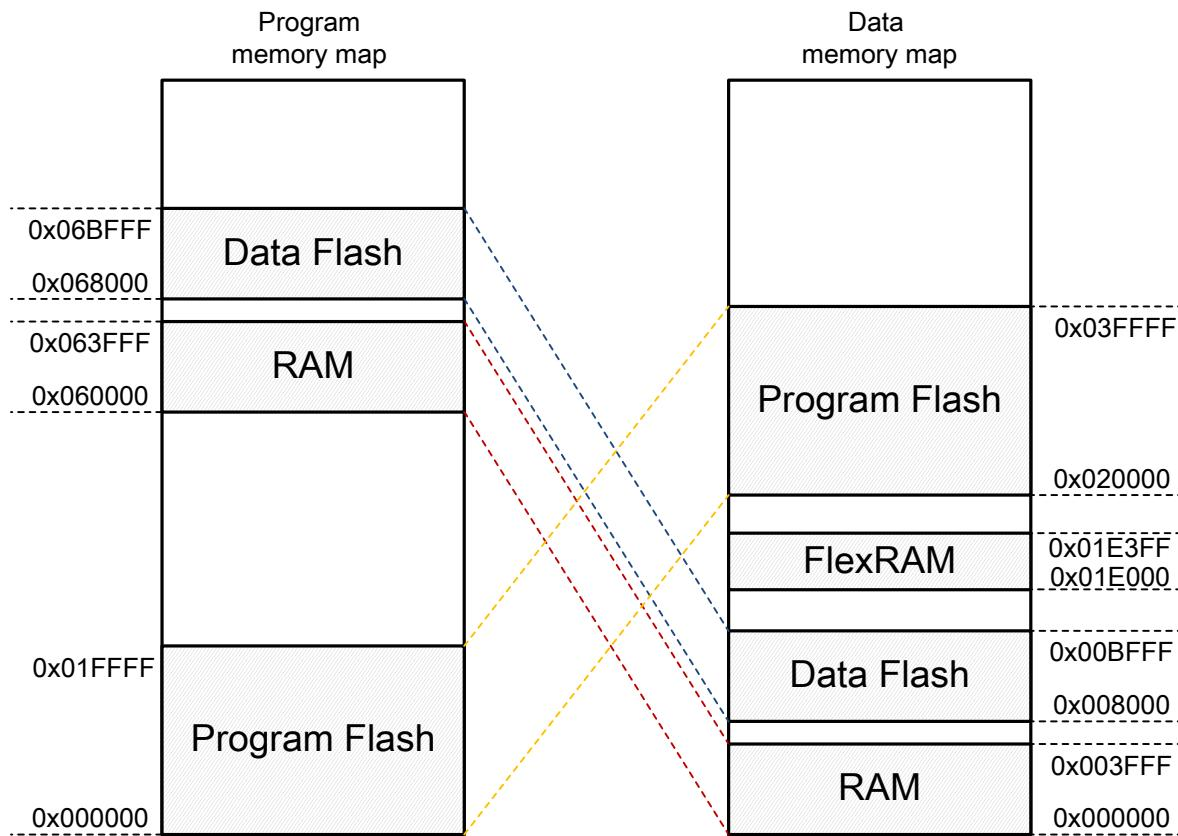

Figure 1. Memory map in MC56F84789 DSC
It is essential to know the detailed memory map on the MC56F84789 MCU. This information can be found in Chapter 4 “Memory Map” of *MC56F847XXRM: MC56F847xx Reference Manual*, available on [freescale.com](http://freescale.com). As for MC56F84789, there are two pieces of flash memories and two pieces of RAMs inside the chip. Both the flash memories and one of the RAMs can be accessed through program memory buses and data memory buses. This means that each of them has two sets of addresses that are mapped into program memory and data memory. Figure 1 shows the exact memory map of MC56F84789 MCU.
- It can be used to store variables with constant values since it is also mapped into data memory as indicated in Figure 1.